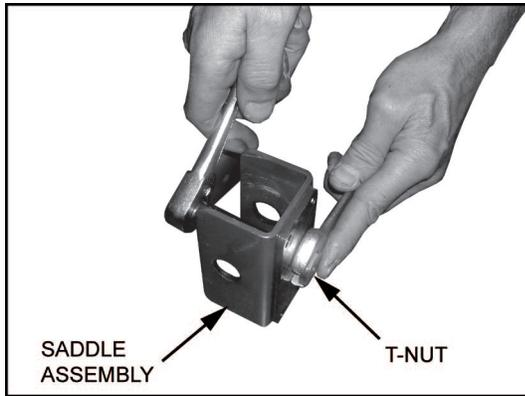

FIGURE 3-37
2. Refer to **Figure 3-37**. Unscrew and remove T-Nut from saddle assembly.